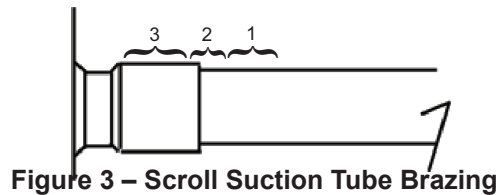

Figure 3 – Scroll Suction Tube Brazing
CAUTION! It is important to check both the high pressure and low pressure sides with manifold gauges before unbrazing. Instructions should be provided in appropriate product literature and assembly (line repair) areas. If compressor removal is required, the compressor should be cut out of system rather than unbrazed. See Figure 3 for the proper compressor removal procedure.
2. Install the suction and discharge manifolds. If the manifolds are brazed to the compressors following the brazing guide in **Figure 3**. If the manifolds are connected to the compressors with rotalocks torque the rotalocks to the value specified in **Table 2**.